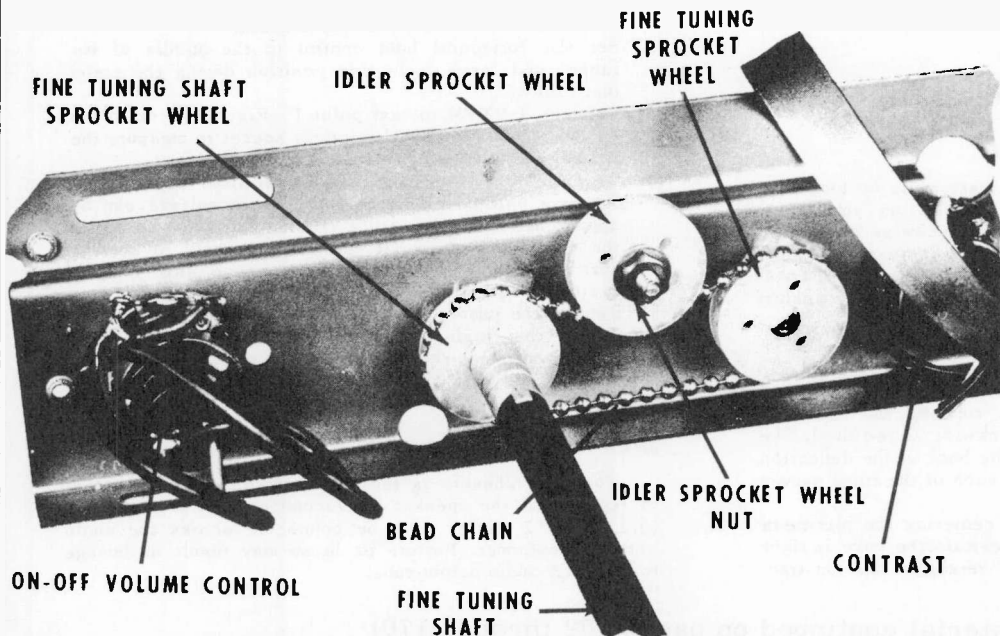

Figure 2 - Control Bracket, Manual Tuning Chassis, Rear View
2. See Figure 2. Loosen idler sprocket wheel nut.
3. (Figure 2). Lift idler sprocket wheel to slip bead chain off the other two sprocket wheels.
7. (Figure 2). Remove the fine tuning shaft sprocket wheel.
1. See Figure 2. Place sprocket wheel on fine tuning shaft of replacement tuner. Figure 2 shows sprocket wheel in place.
5. See Figure 2. Place bead chain under the idler sprocket wheel.